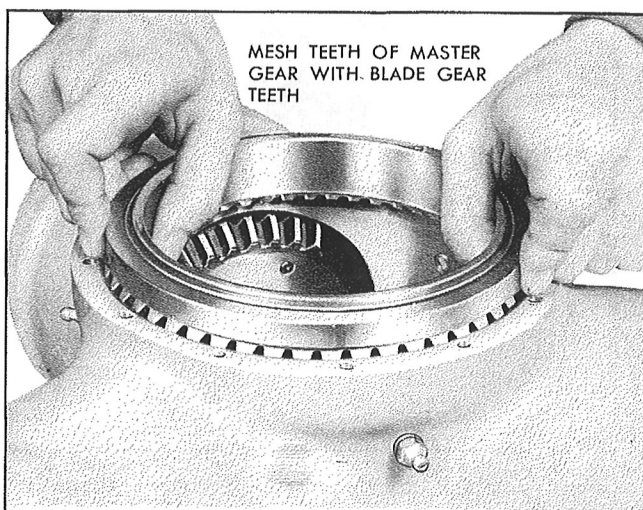

Figure 104—Installation of Master Gear
**Step 6.**—Insert the master gear and bearing assembly into the hub bore, lining up the part number of both the gear and the outer bearing race with the number 1 socket. See Figure 104.